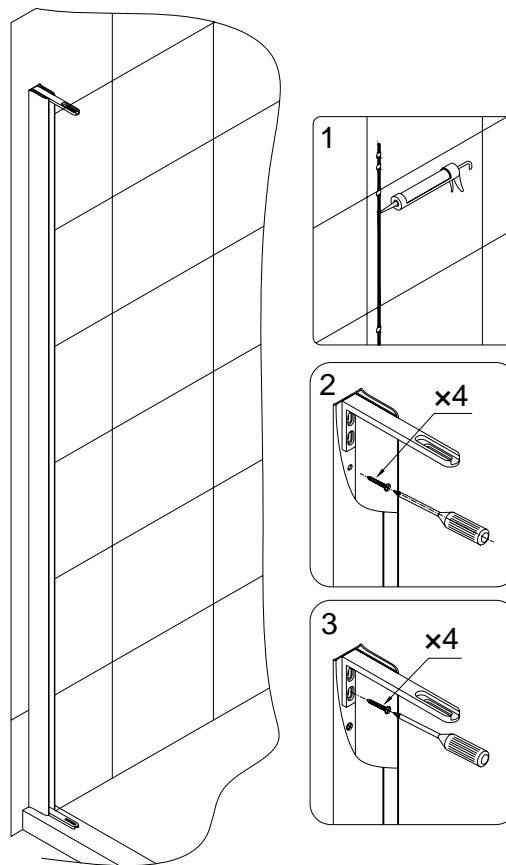

Fig 2
2. Apply silicone sealant along the holes on the wall. Push the **Pivot retainer (8)** into the top and bottom sides of the **Wall profile for glass door (1)**. Attach the wall profile to the wall and pivot retainer to the wall profile using **Round head screws ST4.2x30 (18)**. See Fig 2 for details.